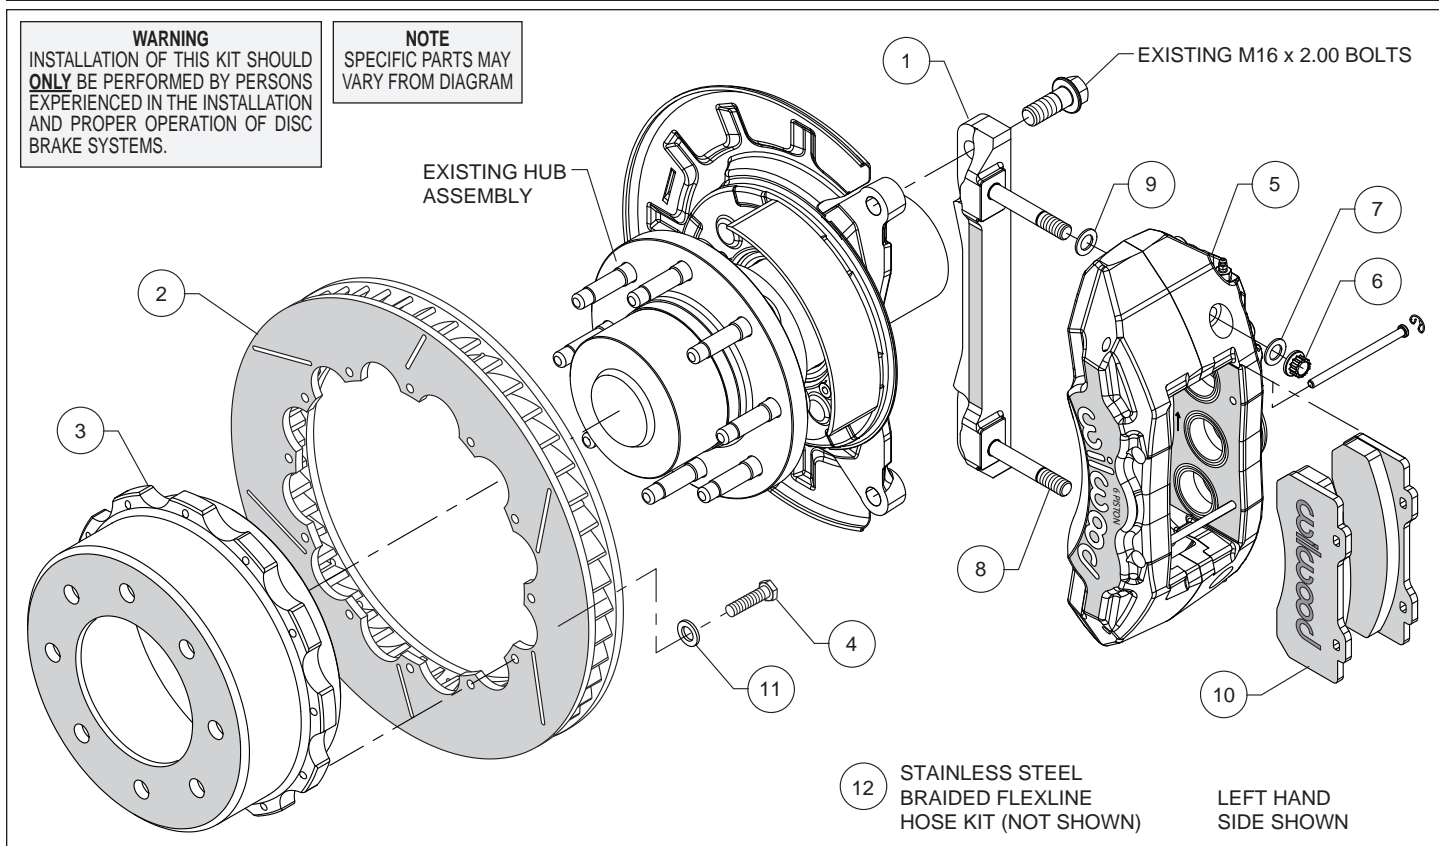
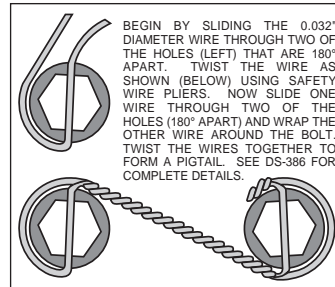

Figure 1. Typical Installation Configuration
Figure 3. Safety Wire Diagram
Assembly Instructions (numbers in parenthesis refer to the parts list and Figure 1 on the preceding pages):
- The caliper mount bracket (1) should initially be installed with clean, dry threads on the mounting bolts. Orient the bracket as shown in Figure 1 and Photo 1, and install using saved OE bolts. Temporarily tighten the mounting bolts. **NOTE:** *The bracket must fit squarely against the mount bosses on the upright.* Inspect for interference from casting irregularities, machining ridges, burrs, etc. Remove the mounting bolts one at a time and apply red *Loctite*[®] 271 to the threads and torque to manufacturer's specifications.
- Orient the rotor (2) and the hat (3) as shown in Figure 1 and Photo 2. Attach rotor to hat using bolts (4) and washers (11). Using an alternating sequence, torque to 25 ft-lbs. The bolts must be safety wired using standard 0.032 inch diameter stainless steel safety wire as shown in Figure 3. Please refer to Wilwood's data sheet DS-386 for complete safety wire installation instructions.
- NOTE:** *This kit contains distinct right and left hand calipers that must be mounted in a specific direction, as described below.* Lubricate the caliper mounting studs (8) with lightweight oil. Initially place one .032" thick shim (9) on each stud as shown in Figure 1 and Photo 3. Mount the caliper (5) onto the bracket (1) using lock nuts (6) and washers (7), Figure 1. Ensure that the caliper is mounted so that the largest pistons are at the rotor exit end of the caliper, in relation to the direction of rotor rotation. Temporarily tighten the lock nuts.